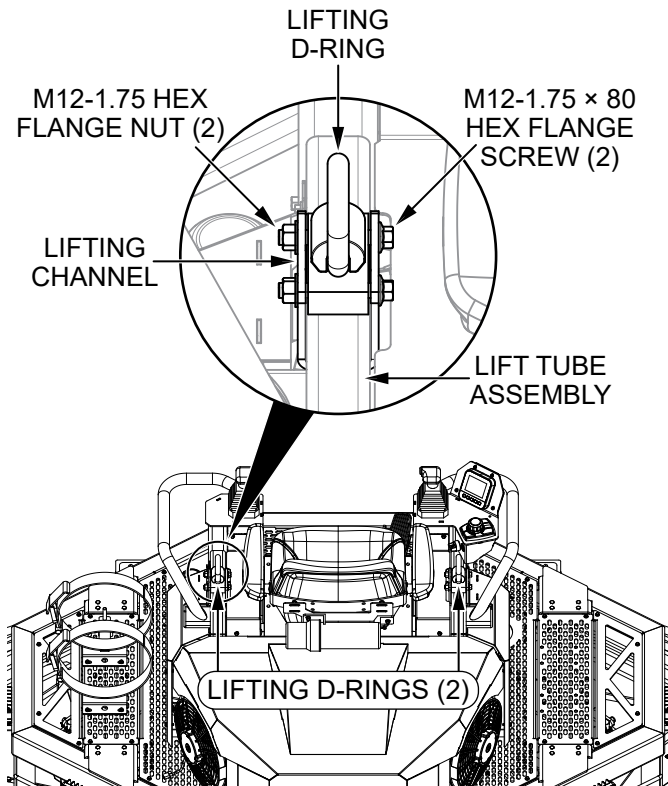

Figure 2. Remove D-Ring Hardware
1. Remove the **two M12-1.75 × 80 hex flange screws** and **two M12-1.75 hex flange nuts** securing either one of the **lifting D-rings** to the **lifting channel** (Figure 2). Discard the lifting D-ring but retain the hardware to use during the next step.
Hold on to the **lifting channel** while removing the hardware. The possibility exists of the lifting channel dislodging from the **lift tube assembly** (Figure 2) and falling into the interior of the trowel.